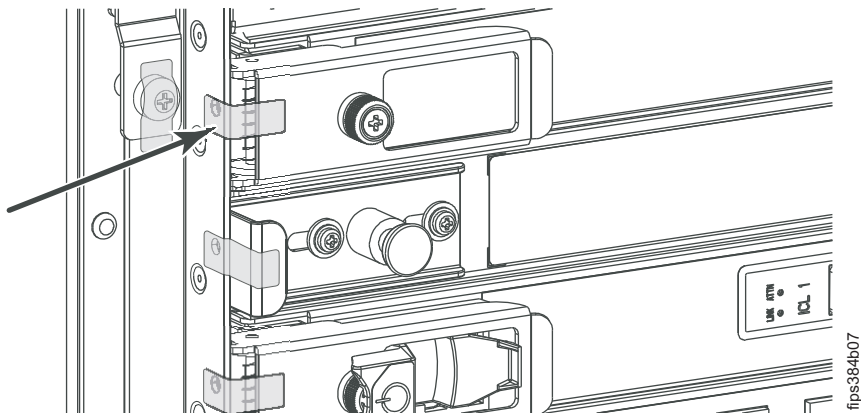

Figure 13. Filler panel FIPS seal application for 2499-192 older filler panel (option 2)
**Attention:** If you are using the older filler panel (49-1000064-02), refer to Figure 13 on page 15 and complete the procedure that follows that figure (option 2).